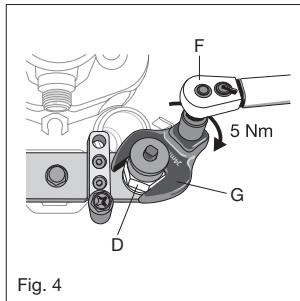

Fig. 4
7. Refer to Figure 4: Set torque wrench F to 5 Nm clockwise rotation.
8. With the torque wrench, use a 24mm crow's foot wrench attachment (G) on the hexagon head of the pull-out thread (D).